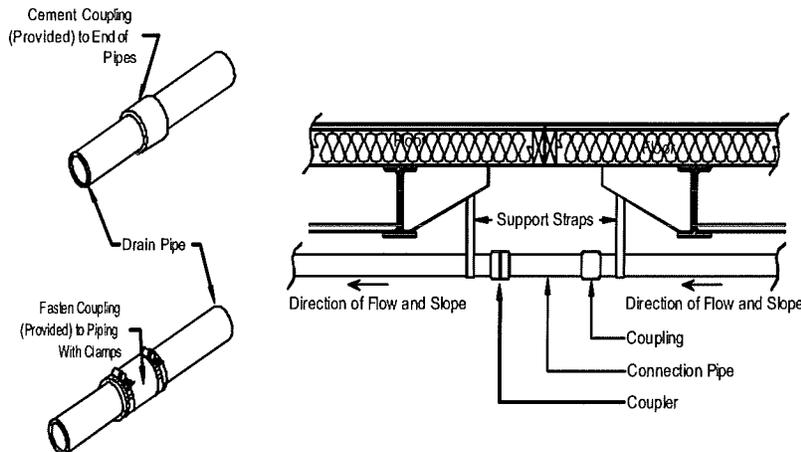
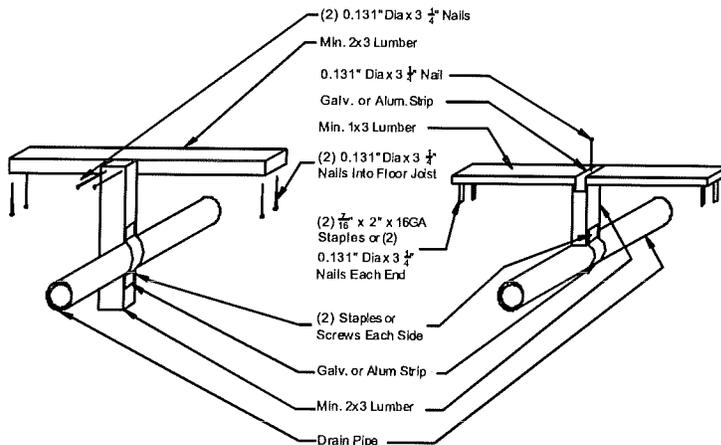

Figure 58. Drain crossover connection
Figure 61. DWV pipe support options
2. **Assemble pipes.** Using the drain schematic drawing provided with the home, begin assembling the DWV system starting at the location farthest from the sewer/septic connection and working towards the outlet, fastening the pipe with cement or adjustable screw-clamp connectors, if provided (**Figure 58**). As the system is assembled, support the piping with temporary blocking. Unless otherwise noted on the schematic diagram, provide a minimum 1/4 inch per foot slope towards the sewer/septic using a plumber's level. Where a slope of 1/4 inch per foot cannot be maintained, use a minimum slope of 1/8 inch per foot and install a full-size clean-out at the uppermost point of the run (**Figure 59**).
5. **Install supports.** Install permanent drain line supports at a distance of four feet o.c. or less (see **Figure 58**, **Figure 60** and **Figure 61**).